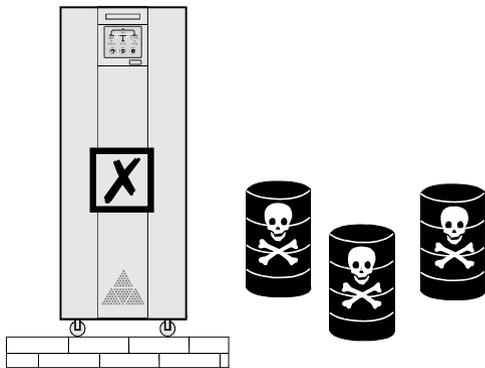

Figure 9
6. Do not install UPS in the place where contains caustic gas. (Figure 9)